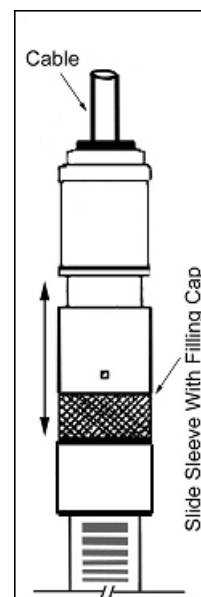

Figure 2: Reference Fill Cap
- a. Slide the sleeve of the electrode cap down to uncover the fill hole (see Figure 2)
The filling hole must remain open during measurements (see Figure 2).